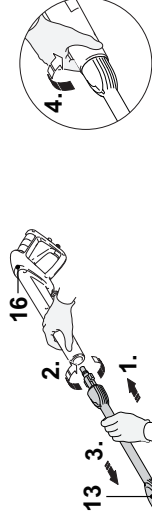

Fig. 12
1. Always attach the extension lance (13) when using the rotary nozzle (14) (Fig. 12).